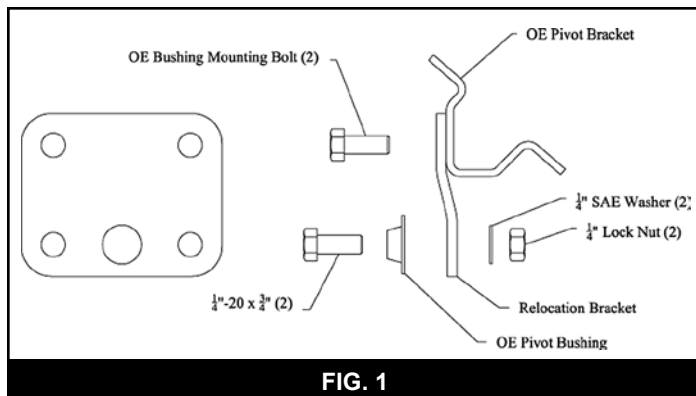

FIG. 1
3. Mount the pivot bushing relocation bracket to the OE bracket as shown in figure 1.
4. Mount the pivot bushing to the relocation bracket as shown in figure 1. Torque all mounting hardware to proper specifications.